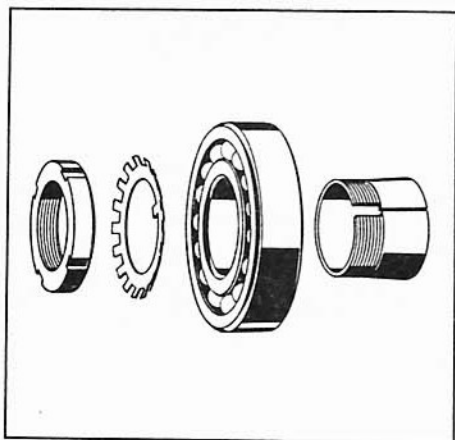

Figure 18 Dismounting bearings—bearings mounted on sleeves
18). The advantages of using a sleeve are that the shaft seating does not need such accurate machining, and mounting and dismounting are made easier. Figure 18 shows, from left to right, a lock nut, a locking washer, a bearing and an adapter sleeve.